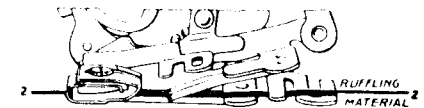

Fig. 59. Correct Position for Material
- Insert the material to be pleated between the two blue blades and under the separator guide (Line 2, Fig. 59).